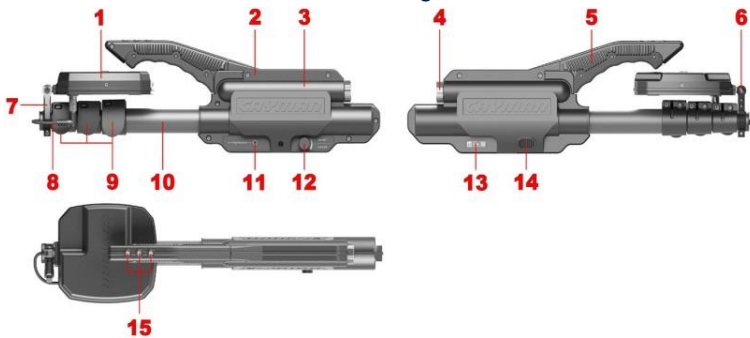
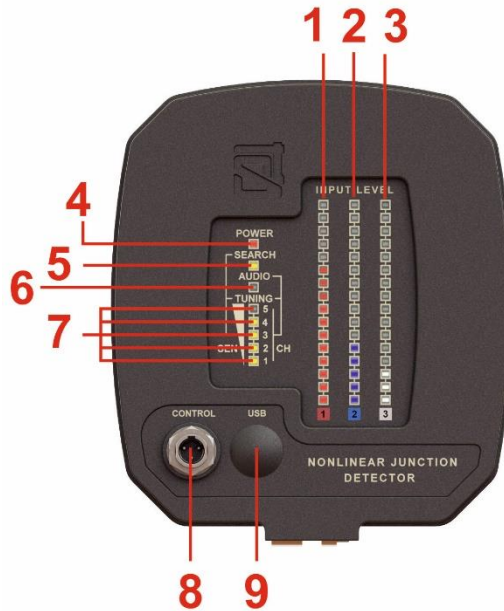

Fig. 2
Fig. 4
ST-402 CAYMAN consists of the main unit and antenna module. They are connected with a telescopic arm. The main constituents are shown in Fig. 2.
On the side of the antenna module facing the operator (Fig. 4), there is an indicator panel, a socket for connecting a control / power cable and a USB connector for connecting a PC
The numbers in Fig. 4:
The main unit is assembled in a sturdy plastic case (2, Fig. 2). In the upper part of the main unit body there is a handle (5, Fig. 2) with three control buttons (15, Fig. 2). Inside the main unit case there is a battery compartment (3, Fig. 2) for two batteries (type 18650). The battery compartment is closed with a metal cover (4, Fig. 2). On the left side of the case there is a headphone jack (11, Fig. 2) and a power switch / volume control (12, Fig. 2). On the right side of the case there is a shield with information about the device name, serial number and manufacturer (13, Fig. 2) and the internal speaker (14, Fig. 2). The electronic control unit of the device is located inside the housing.
The four-section telescopic arm is designed to bring the antenna module closer to the tested object. With the help of eccentric clamps (9, Fig. 2), you can set the required rod length. The telescopic bar is rigidly attached to the supporting structure inside the main unit. The front part of the telescopic arm is equipped with a bracket for attaching the antenna module (6, Fig. 2).
The antenna module is fixed in the required position using a lever handle (7, Fig. 2).
5. Make sure that the power switch knob (12, Fig. 2) is in the extreme left position (off).
6. Connect the power/control cable connector (8, Fig. 2) to the socket of the antenna module (8, Fig. 4).
After turning on the ST-402, periodic spontaneous illumination of one or more segments of the signal level indicators is possible (1-3, Fig.4). This indicates the need to adapt the ST-402 to the current electromagnetic environment.
The SEARCH indicator on the antenna module panel goes out (5, Fig.4) and the AUDIO indicator lights up (6, Fig. 4).